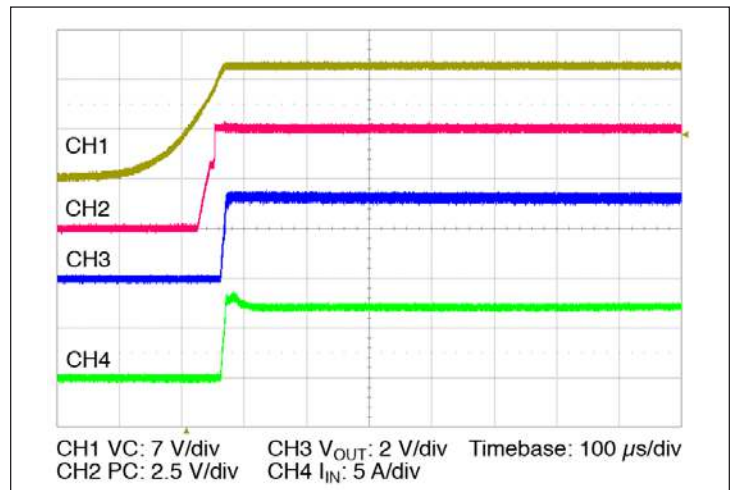

Figure 14 — Start up from application of VC; V_{IN} pre-applied $C_{OUT} = 0 \mu\text{F}$
- **Stand Alone Operation (VC applied after V_{IN}):** In this case the module output will begin to rise upon the application of the VC voltage (See Figure 14). The Adaptive Soft Start circuit (See Section 10) may vary the output rate of rise in order to limit the inrush current to its maximum level. When starting into high capacitance, or a short, the output current will be limited for a maximum of 900 µsec. After this period, the adaptive soft start circuit will time out and the module may shut down. No restart will be attempted until VC is re-applied, or PC is toggled. The maximum output capacitance is limited to 4000 µF in this mode of operation to ensure a successful start.